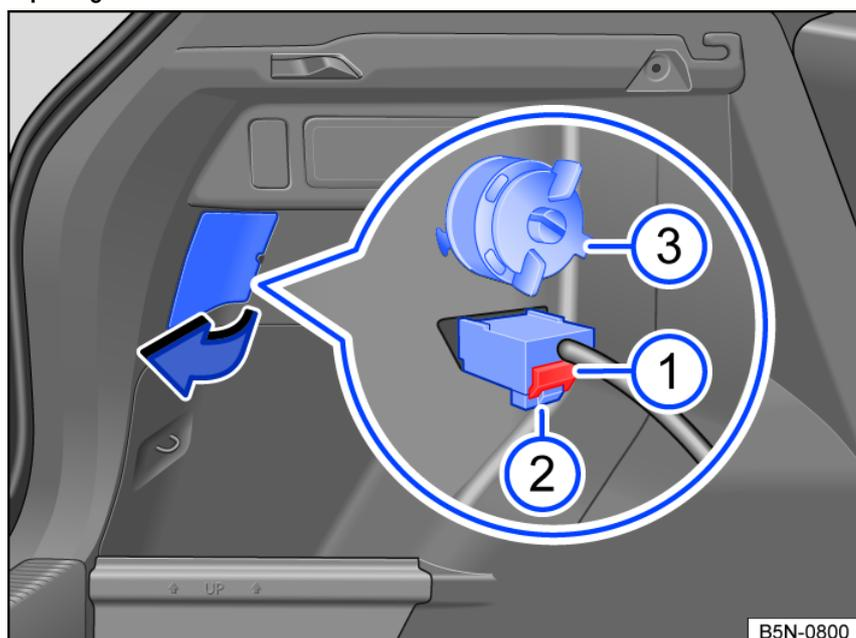

Fig. 181 Side of the luggage compartment: removing the taillight.
1. Open the section of the side trim panel in the luggage compartment near the taillight in the direction of the arrow *fig. 181*.
2. Remove the red locking mechanism on the connector *fig. 181* ① and remove the connector *fig. 181* ②. If necessary, use a suitable tool to help loosen the red locking mechanism.
3. Remove the screw counterclockwise *fig. 181* ③.
1. Fit the connector *fig. 181* ② and press the red locking mechanism into the connector *fig. 181* ①.
3. Hold the taillight in the installation position with one hand and tighten the screw with the other hand *fig. 181* ③.